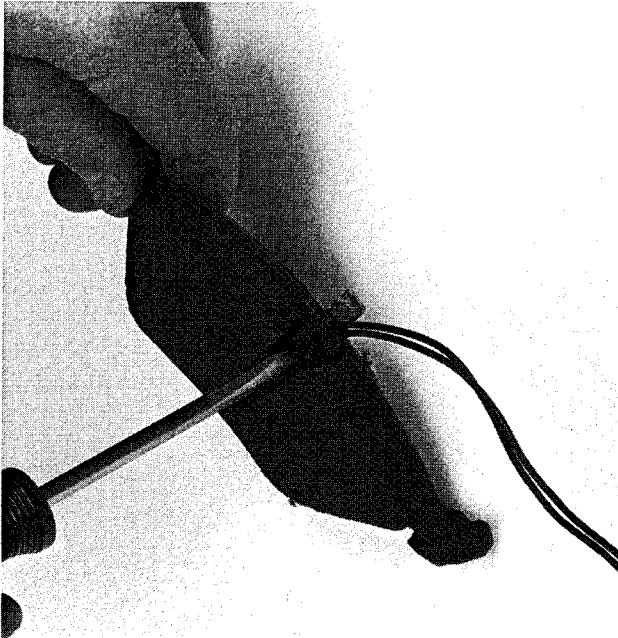

**Fig. 5.** Removing brake pad wear sensor.
6. Remove brake pads from caliper. Where applicable, carefully pry pad wear sensor from pad. See Fig. 5.